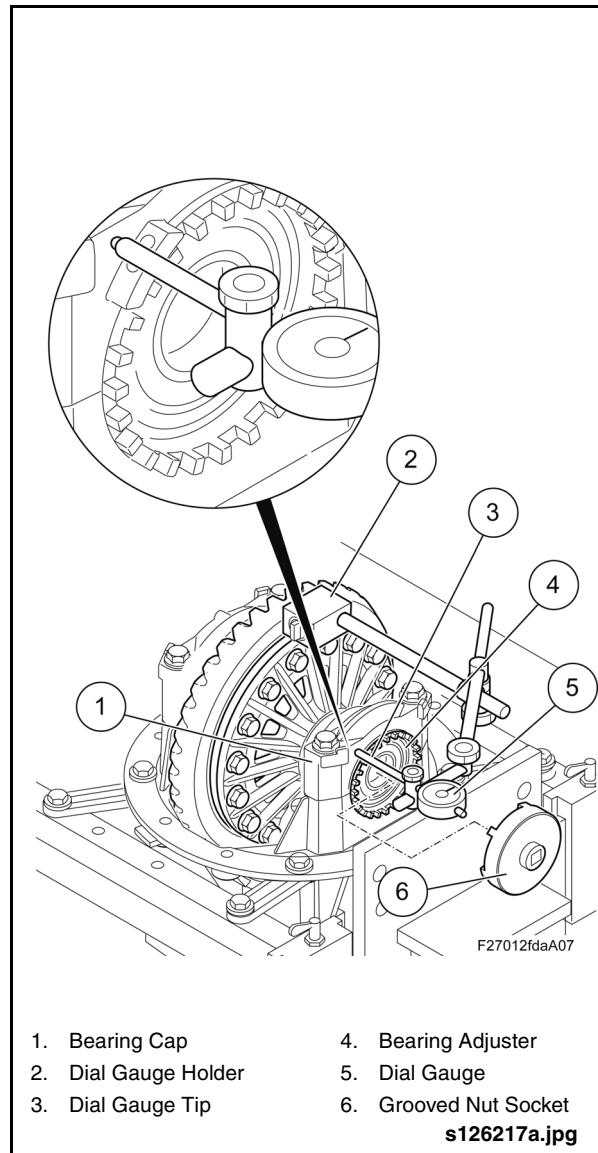

Fig. 2-71: Setting Bearing Preload Adjustment
3. Place Dial Gauge Holder with Dial Gauge (Items 45 & 44 from Special Tools List) on the crown gear. *See "Fig. 2-71: Setting Bearing Preload Adjustment" on page 59.*